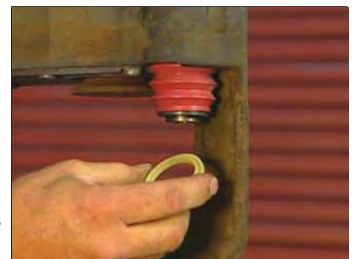

FIGURE 83 - PLACE THE RETAINING RING ONTO THE GROOVE IN THE GUIDE PIN
5.6.35 See Figure 83. To install the guide pins, first lubricate both guide pins with the white grease supplied. Insert the guide pins into their respective bores with the grooved end towards the bellows.